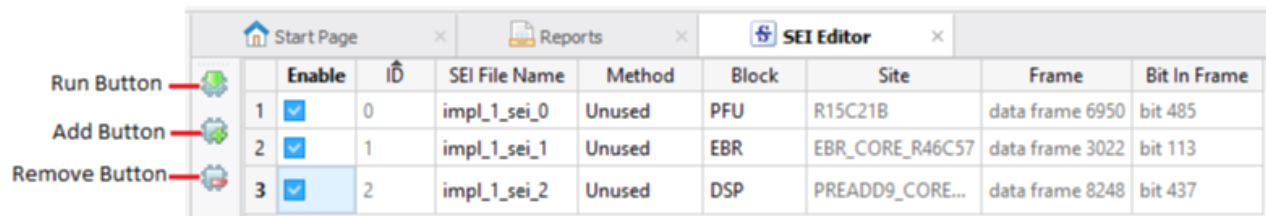

Figure 9.1. SEI Editor
2. Run the SEI Editor (as shown in Figure 9.1) under Tools. This allows user to create one frame special bitstream that has one bit different from original bitstream.